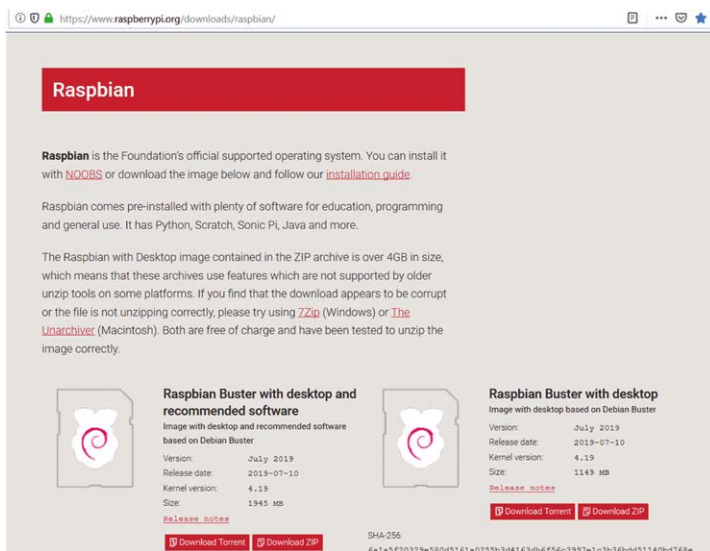

Figure 2.1 Raspbian Buster download page
- Download the Buster image to a folder on your PC (e.g. C:\RPiBuster) from the following link by clicking the Download ZIP under section **Raspbian Buster with desktop and recommended software** (see Figure 2.1). At the time of writing this book the file was called: **2019-07-10-raspbian-buster-full.img**. You may have to use the Windows 7Zip software to unzip the download since some of the features are not supported by older unzip software.